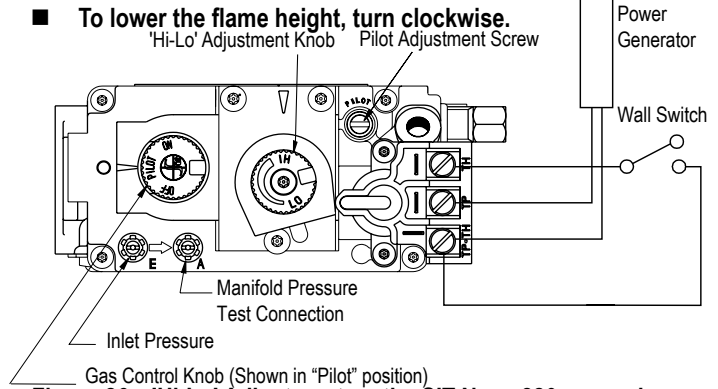

Figure 26. 'Hi-Lo' Adjustment on the SIT Nova 820 gas valve,
The H\*42DF\*ST is equipped with an adjustable burner, allowing you to raise or lower the flames. To adjust the flames, locate the black knob marked 'Hi-Lo', in the centre of the gas control valve (See Figure 26).
1. Locate Pilot Adjustment Screw. (See figure 26 or 27.)